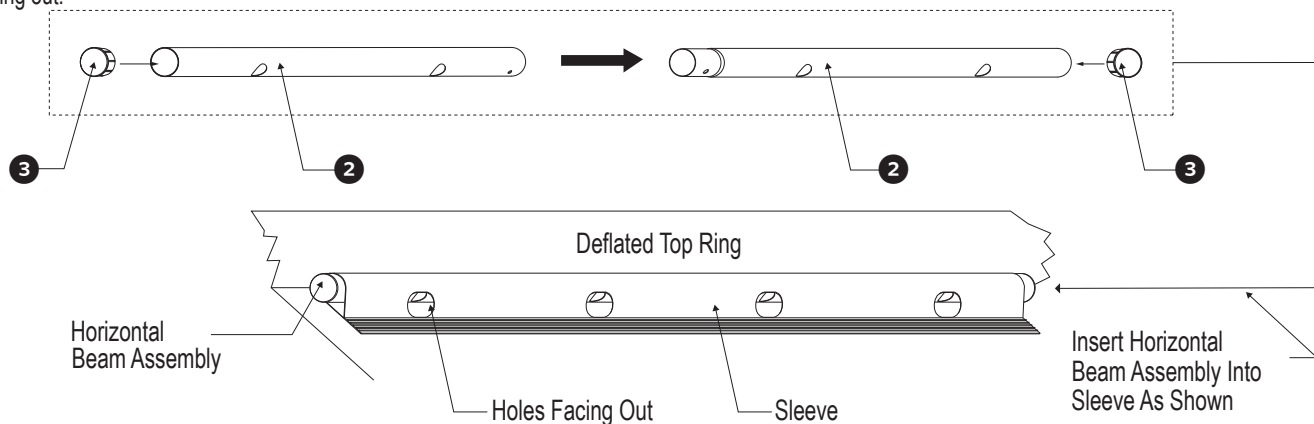

FIG. 2
7. Now, take two Horizontal Beams (different parts), then slide them together, depress the button as you insert them together and slightly rotate them until the button aligns with the hole and pops up. Now install the plastic Beam Plugs in both ends lightly tapping them into place. Now slide this Horizontal Beam assembly through the sleeve stitched along the long sides of the pool, under the ring on both sides as shown in FIG. 2. Make certain that the holes for the U-Shape Pipe frame are facing out.